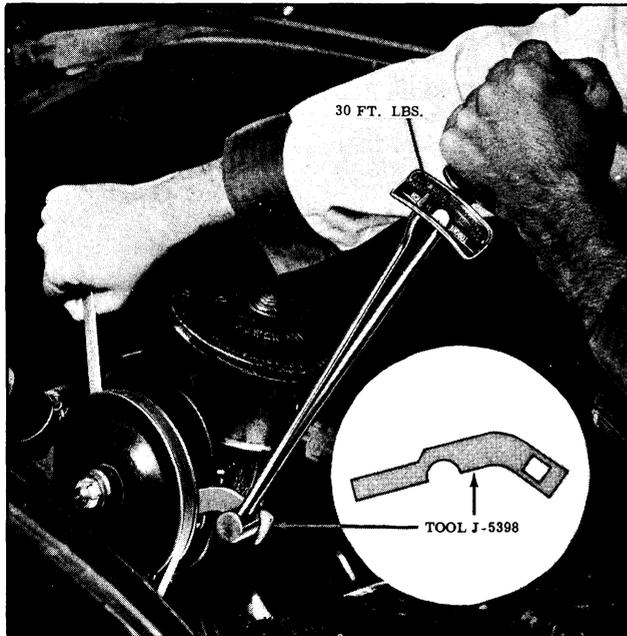

Fig. 5-21 Pump Belt Adjustment
2. Place Tool J-5398 under pump body and over pivot cap screw as shown in Fig. 5-21.